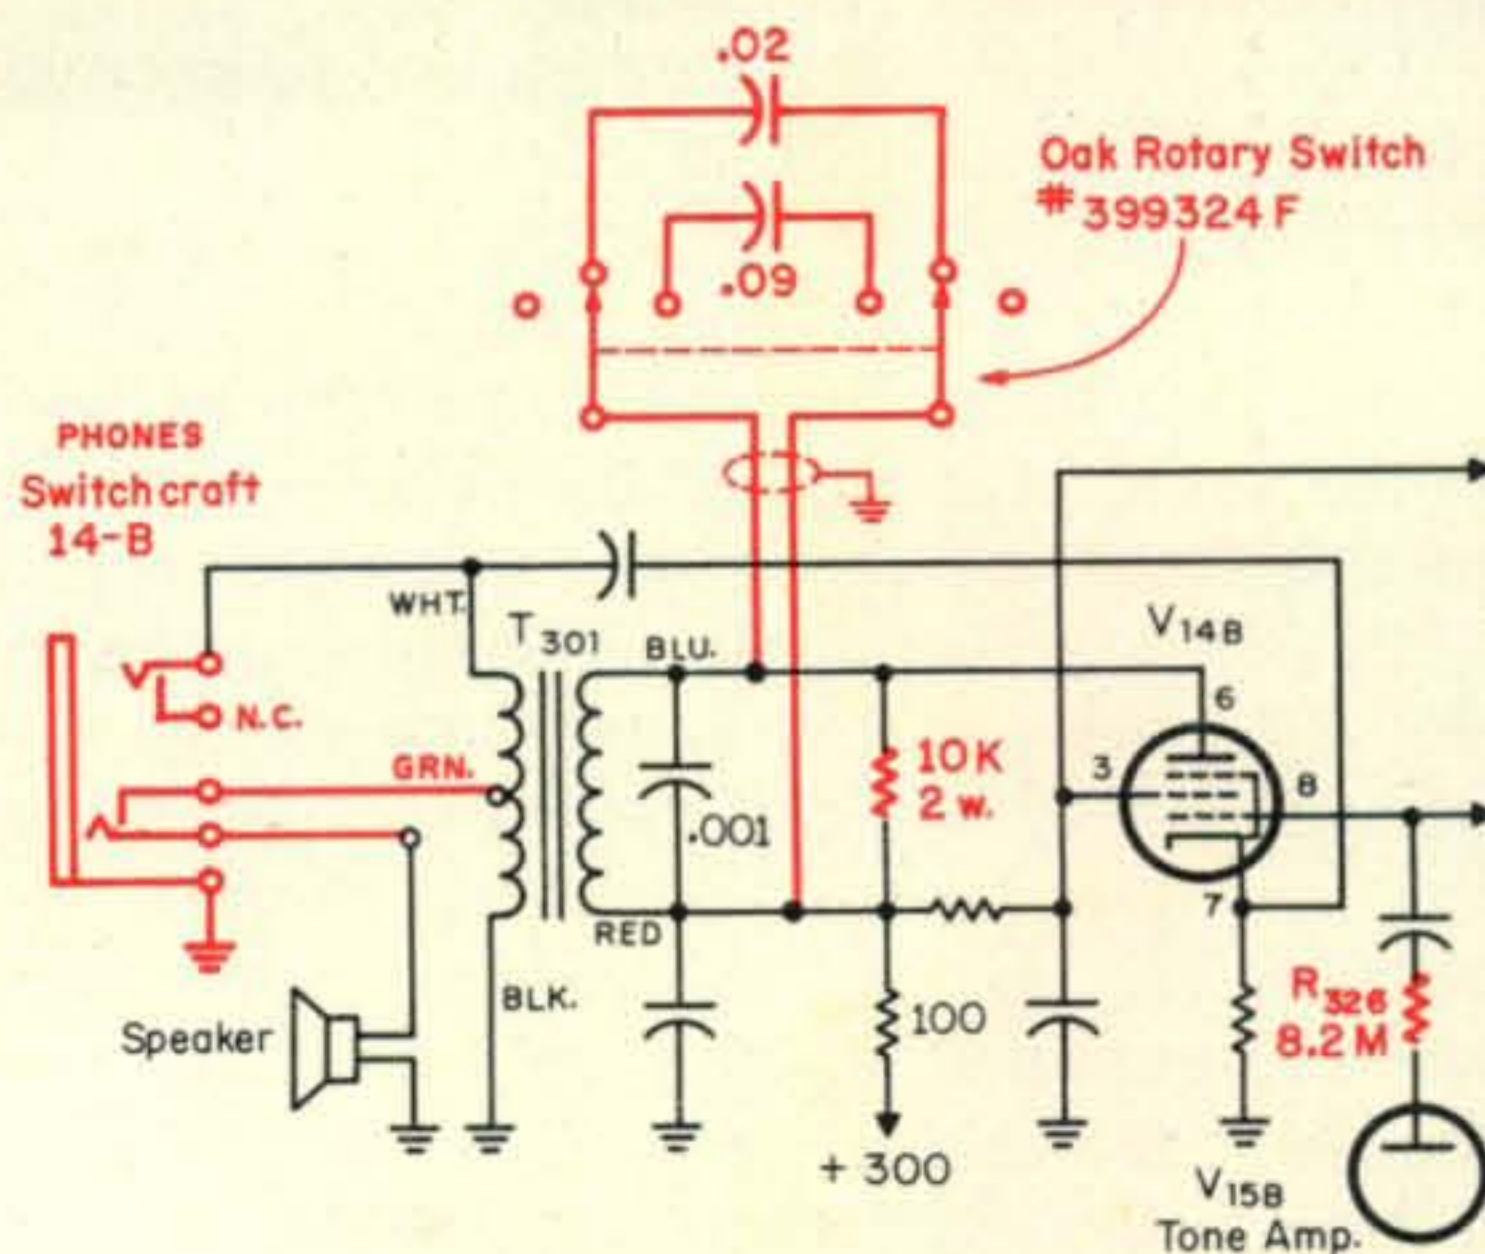
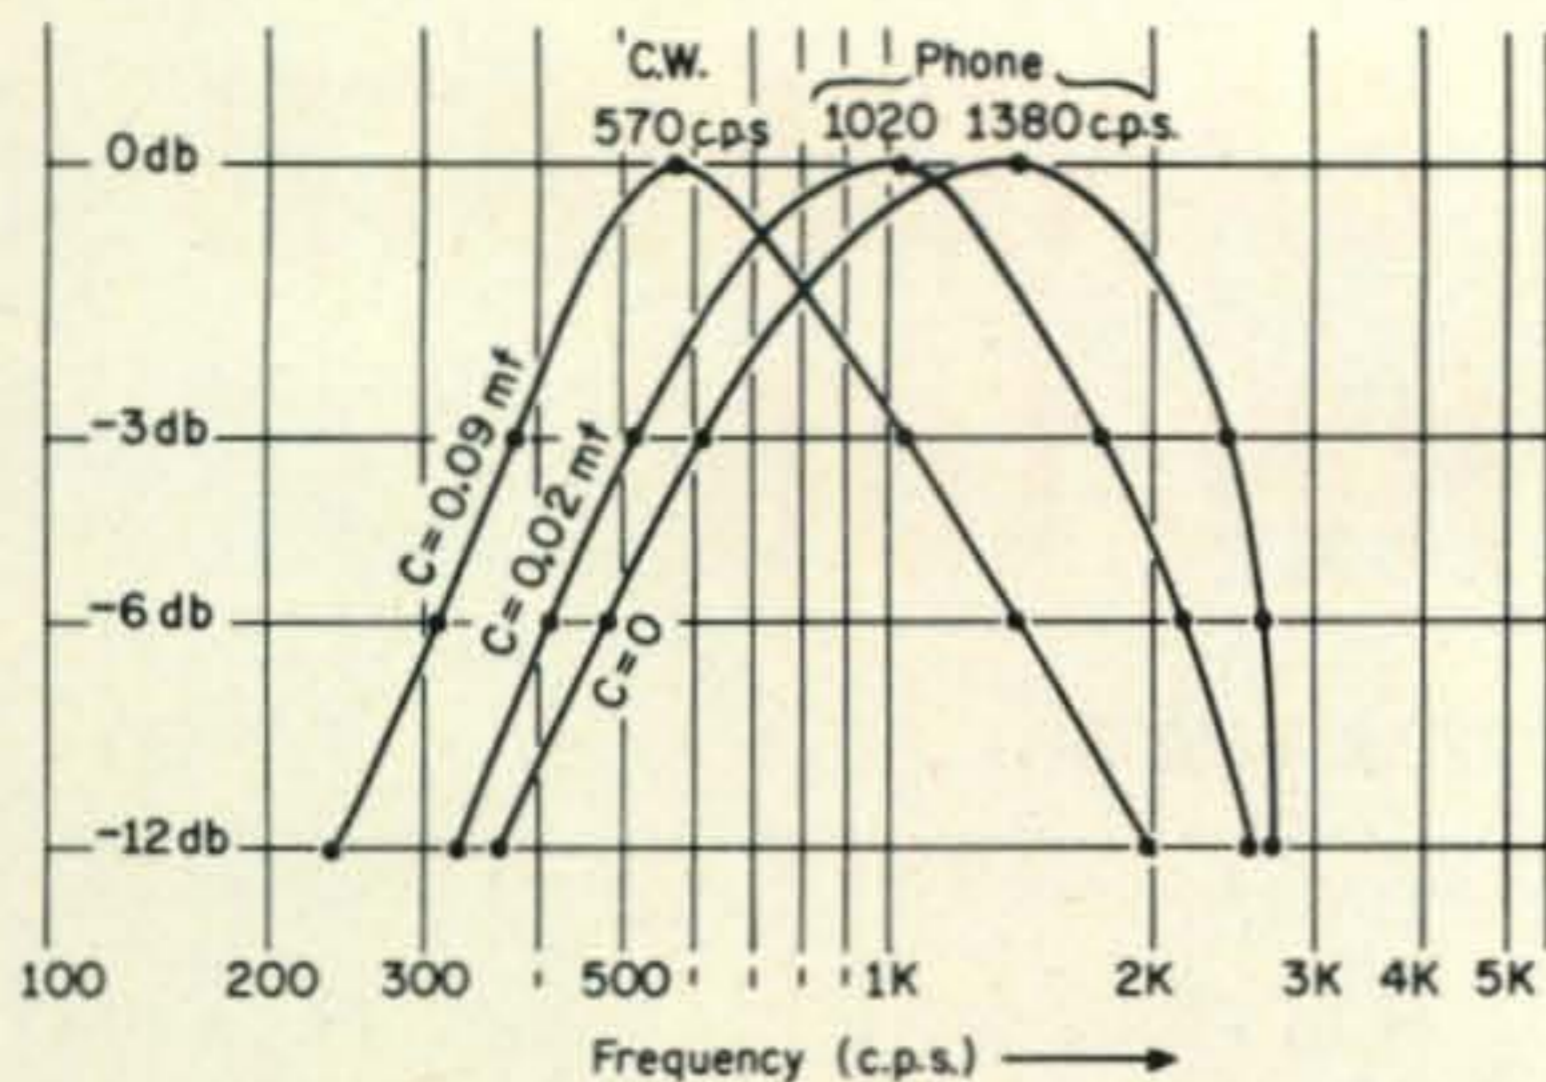

Fig. 1—Modifications made to the audio section of the Heathkit HW-100 are shown above and described in the text.
Fig. 2—Audio response curves for the Heathkit HW-100 shows the effect of the audio bandwidth switch.
The circuit is simple (See fig. 1) and very few parts are required. The parts can be scrounged from the junk box, gotten from other hams by swapping, homebrewed and (Heaven forbid!) bought new. The tubes used, as shown in fig. 1, are 6JE6's, but can also be 6KD6, 6LQ6, 6KM6 or 6JB6 all of which are easily obtainable from any TV supply house.
All of the capacitors used are disc ceramics at 600 volts except for three which have a 2.5 kv rating (as noted in fig. 1). The disc
Checking out of the unit is done with the tubes in place, no input signal and no antenna connected. A zero to 500 ma meter is inserted in the negative leg of the power supply output as shown in fig. 1. With no input or load the current reading should be between 50 to 90 ma. If it is not, the values of the 1K and 3.3K bias voltage divider resistors may have
Fig. 1—Circuit of the ARC-500 linear for 80, 40 and 20 meters. The resistors paralleling the diodes are 330K, 1/2 watt each. Japanese type 1S315 diodes can be substituted for the RCA types if it is more economical. All capacitors with values greater than one are in mmf except for electrolytics which are indicated by polarity markings.
Fig. 1—Two 48' hanks of 3/16" nylon sash rope cut to the proper length supports 125' of coiled #14 wire. The dipole is fed by a length of RG8/U coax. This antenna will load on 80, 40, 20, 15 and 10 meters.
Item 4 can be taken care of by changing the value of R_{326} at pin 1 of V_{15} (fig. 1) from 1 megohm to 8.2 megohms, or to a value between 1 and 8.2 megohms that produces a tone level suitable to the individual.
Item 3 is no problem in the HW-100's sister rig, the Heathkit SB-101, since a headphone jack is used with contacts to disconnect the speaker. Figure 1 shows the modified schematic, changing the HW-100 audio output circuit to that of the SB-101. It is a simple matter to do the rewiring. A two conductor non-shielded "speaker wire" can be run from the rear of the chassis to the front phone jack by threading it along where the cable harness is run. The new phone jack is a Switchcraft Stereo "Littel-Jax" type 14B, connected as shown in fig. 1. When the headphones are inserted, the speaker is grounded; when they are removed the speaker is connected to the 8 ohm output transformer tap.
Item 2 can be corrected by mounting a 10K 2 watt carbon resistor across the amplifier side of the audio transformer, T_{301} , as shown in fig. 1. This resistor was mounted by its leads on the bottom of the audio amplifier printed circuit board, and tends to load and broaden the response of the audio amplifier, while at the same time reducing its gain and tendency to "ring."
Item 1 was taken care of, as shown in fig. 1, by switching a 0.09 mf ceramic capacitor, a 0.02 mf ceramic capacitor, or an open circuit across the 10K resistor installed to correct item 2. This switching gives the operator three receiver response curves to choose from, one for c.w. and two for phone, as shown in fig. 2.
Figure 2 shows that three 3 db bandwidths can be selected: 1) 380 to 1020 c.p.s. for c.w. and, 2) 510 to 1700 c.p.s. or, 3) 620 to 2400 c.p.s. for phone. These curves were obtained by tuning through an r.f. signal inserted into the receiver at its antenna terminals and measuring the resulting audio output at the speaker terminals.
Figure 1 shows three additional protective circuits, developed in an effort to make certain types of military equipment "fool-proof, WAC-proof, and Colonel-proof."
Fig. 1—Three methods of protection against reverse application to transistorized loads. (A) series diode. (B) Series and shunt diodes with a reversal indicator and (C) a bridge circuit that always connects the input correctly.
Referring to fig. 1, the circuit uses one FET as a series attenuator controlled by a d.c. voltage derived from the audio output. A variable resistor, R_3 , permits adjustment of the compression level. The audio output signal is sampled at the speaker lead and a portion of it is taken off R_3 to T_1 , which steps up the low impedance signal to several volts. This higher level signal is rectified by CR_1 and filtered by C_1 and R_2 , then fed to the FET gate. Diode CR_1 is so connected as to cause Q_1 to conduct less as the audio output becomes greater, which tends to hold the output constant. Resistor R_1 furnishes a d.c. ground for the drain of Q_1 .
Fig. 1—Circuit of a compressor using a single symmetrical FET. Source and drain terminals of Q_1 may be connected in either way. The value of the volume control will vary for different receivers and will not affect the operation too greatly. A 25K value was used in the receiver modified here.
ally required to get adequate performance with control grid modulation. Since the a.m. feature was worthless, the bias system was no longer needed. C.w., performance can be improved by removing the components associated with the 6H6 bias regulator and rewiring the final amplifier bias circuit as shown in fig. 1. Using a keying relay eliminated the +275 volts on the key and also cured a peculiar problem caused by the final amplifier oscillating when receiving high level signals.
Fig. 1(A)—Modified bias circuit for the No. 19 Set. The following components have been removed: R_{1C} , R_{1D} , R_{43A} , R_{7G} , R_{7D} , R_{15A} , R_{15B} , R_{42B} , C_{15M} , R_{19A} , C_{15C} , C_{34A} , C_{2D} , R_{1E} and C_{15D} and replaced with the above circuit. Capacitor C_{2A} must be replaced with a 50 mmf, 1000 volt mica. (B) Modifications to the keying circuit include the addition of a 12 v.d.c. relay as shown above.